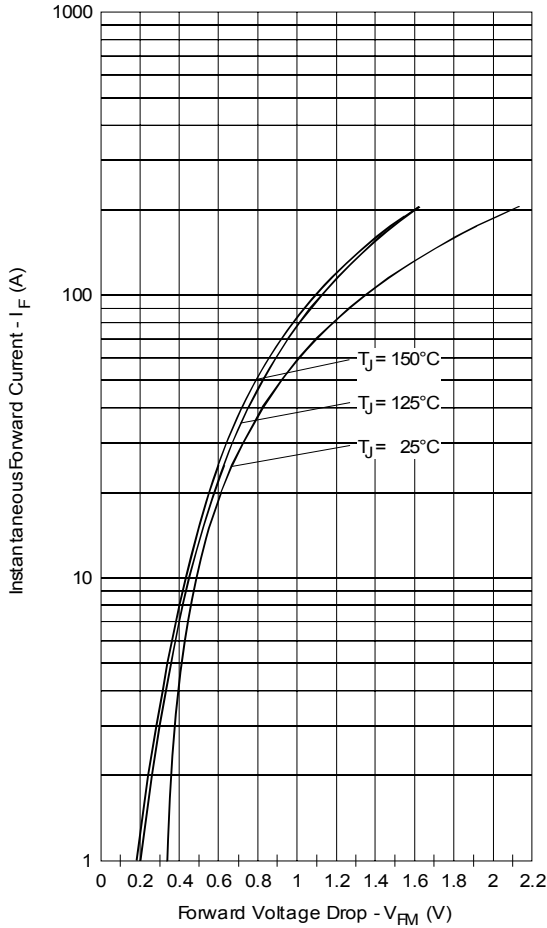

Fig. 1 - Max. Forward Voltage Drop Characteristics (Per Leg)
| $V_{FM}$ Max. Forward Voltage Drop (Per Leg) * See Fig. 1 (1)    | 0.610.830.580.75 | V                | @ 20A@ 40A@ 20A@ 40A$T_J = 25^\circ\text{C}$$T_J = 125^\circ\text{C}$ |